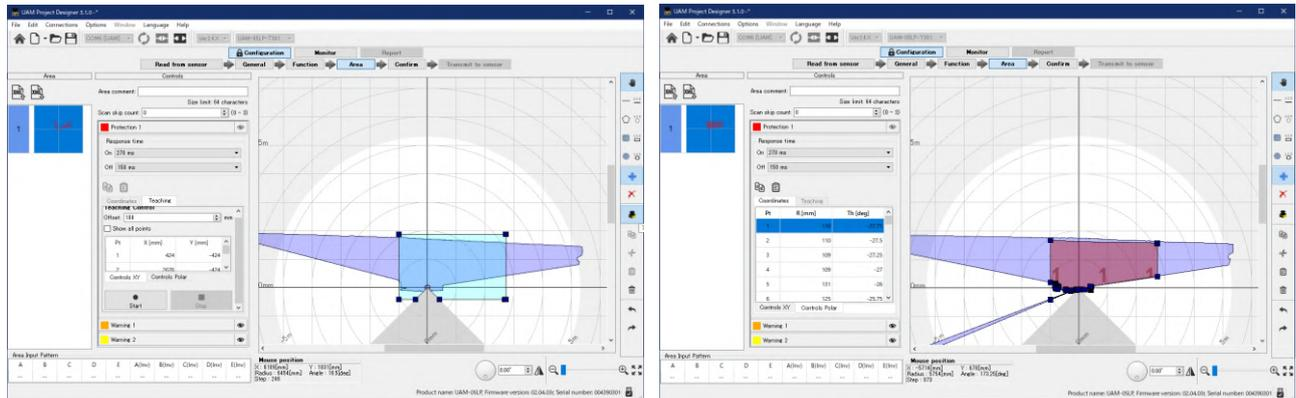

Figure 7-47 Teaching area range designation
- It is also possible to specify the region for generating the area by teaching function. Use the area tools for this purpose. If specified region does not have any background, area will be generated at the maximum distance of the specified region (Figure7-47).